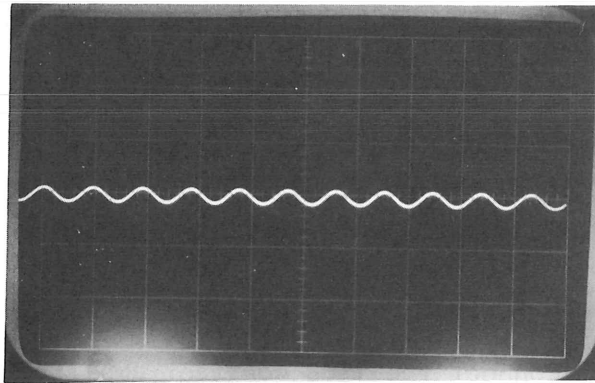

Figure 10B
5. Adjust TRIGGER LEVEL control for a stable display. 2 mm of vertical deflection should be displayed on the CRT. See Figure 10B.